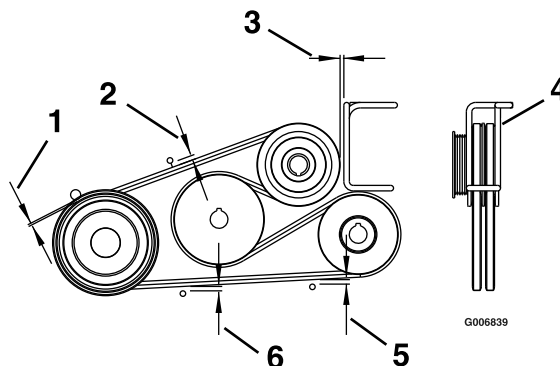

**Figure 62**
6. Route the new belt onto the sheaves as shown in the decal located on the back of the left drive shield (Figure 62).